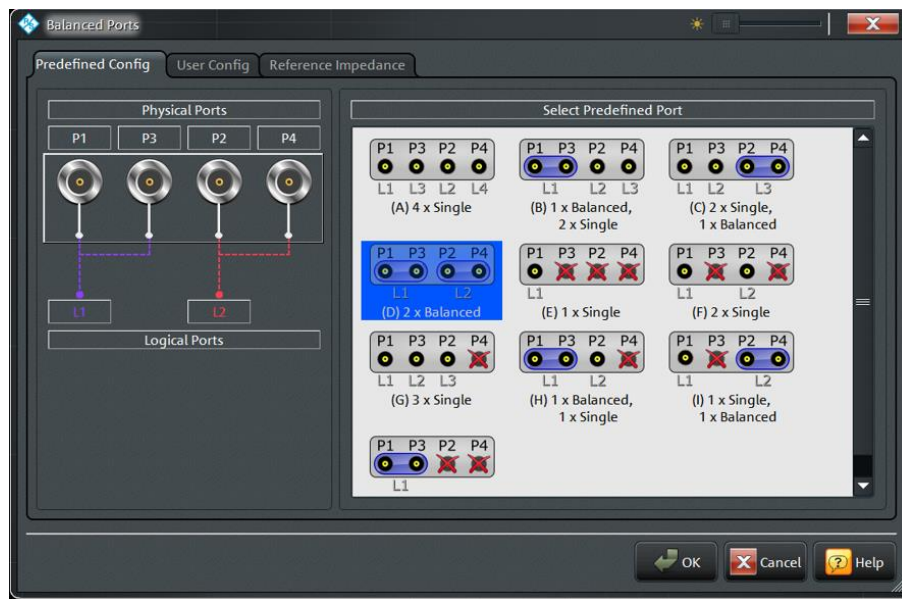

Fig. 3-6: Balanced port configuration for the ZNB4
- Select the configuration as shown in Fig. 3-6